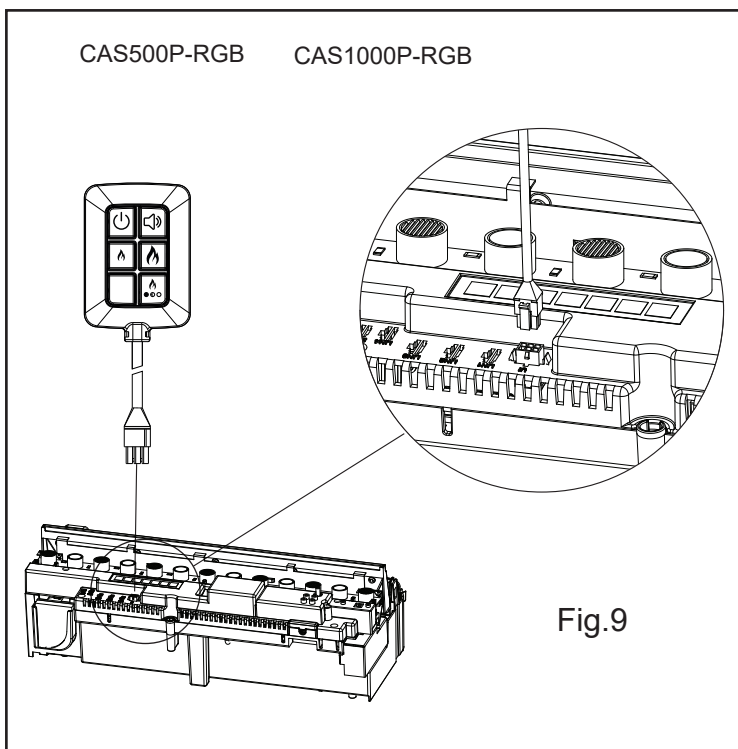

Fig.9
With the fuel bed removed, Connect the Bluetooth receiver connector into the receiver cable socket at the back of the appliance (Fig 9). It is important to ensure that the jack is pushed fully into the socket. Failure to fully insert the connector will prevent the product from functioning correctly. The receiver has a cable length of 1.4m which will allow you position it anywhere around the product. If you prefer to hide it, the receiver can be placed inside the surround/wall. Please ensure that the receiver is not enclosed in metal, concrete or any other dense material, this will affect the signal from the remote control.
2. Connect the Bluetooth receiver to this product (Fig 20A, 21A). This will be the only Bluetooth receiver in the installation and will control the rest of the products in the installation. In an installation of both CAS500P & CAS1000P products, the Bluetooth receiver (Fig 9) should be connected to the 'master' product.